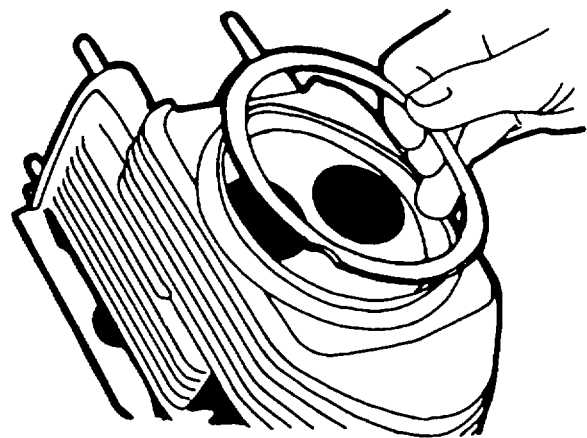

Figure 5-72. Intermediate Ring
- c. Ensure the intermediate ring is in good condition before placing it in the recess of cylinder head (figure 5-72).